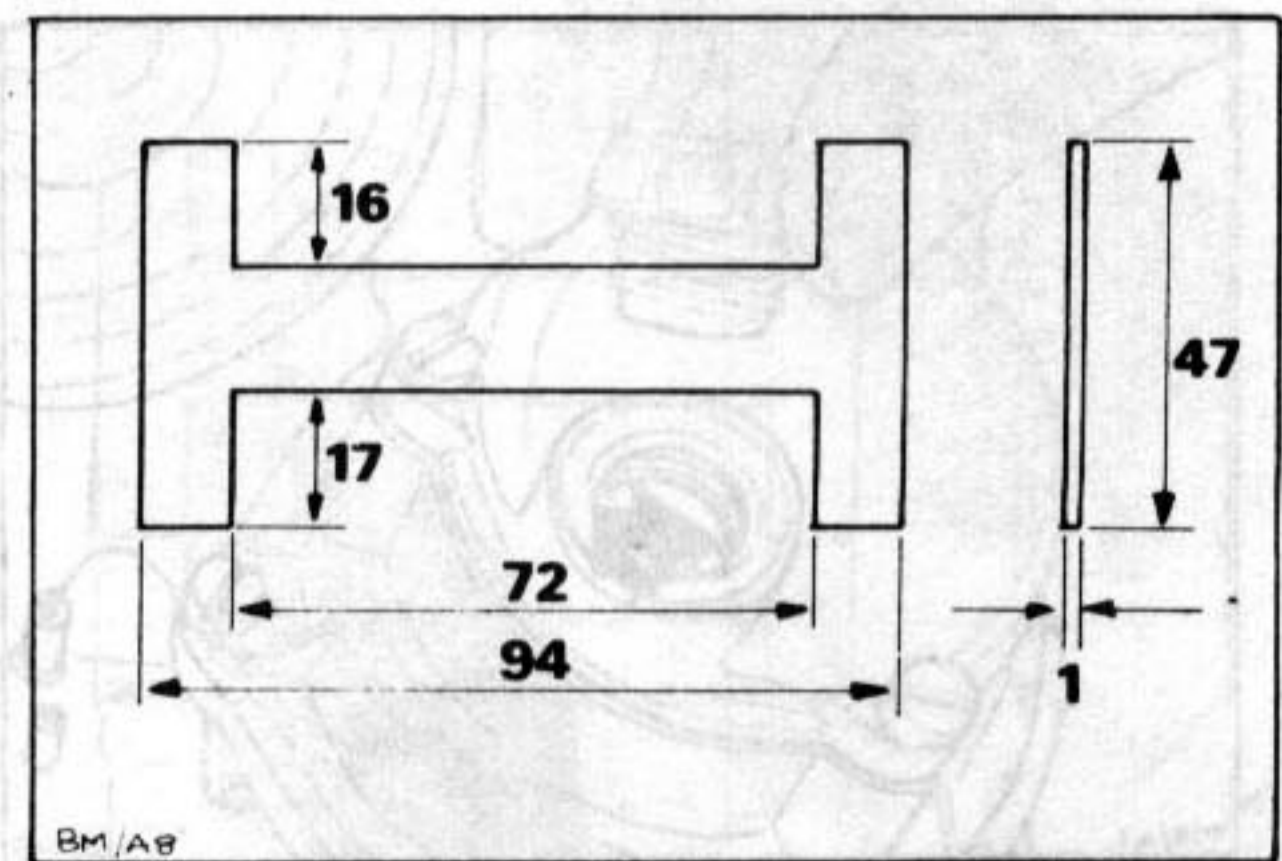

Fig. 9 Float level gauge
- Special Note:** Measuring gauge, made up to dimensions shown in Fig. 9, can be used to check float level.